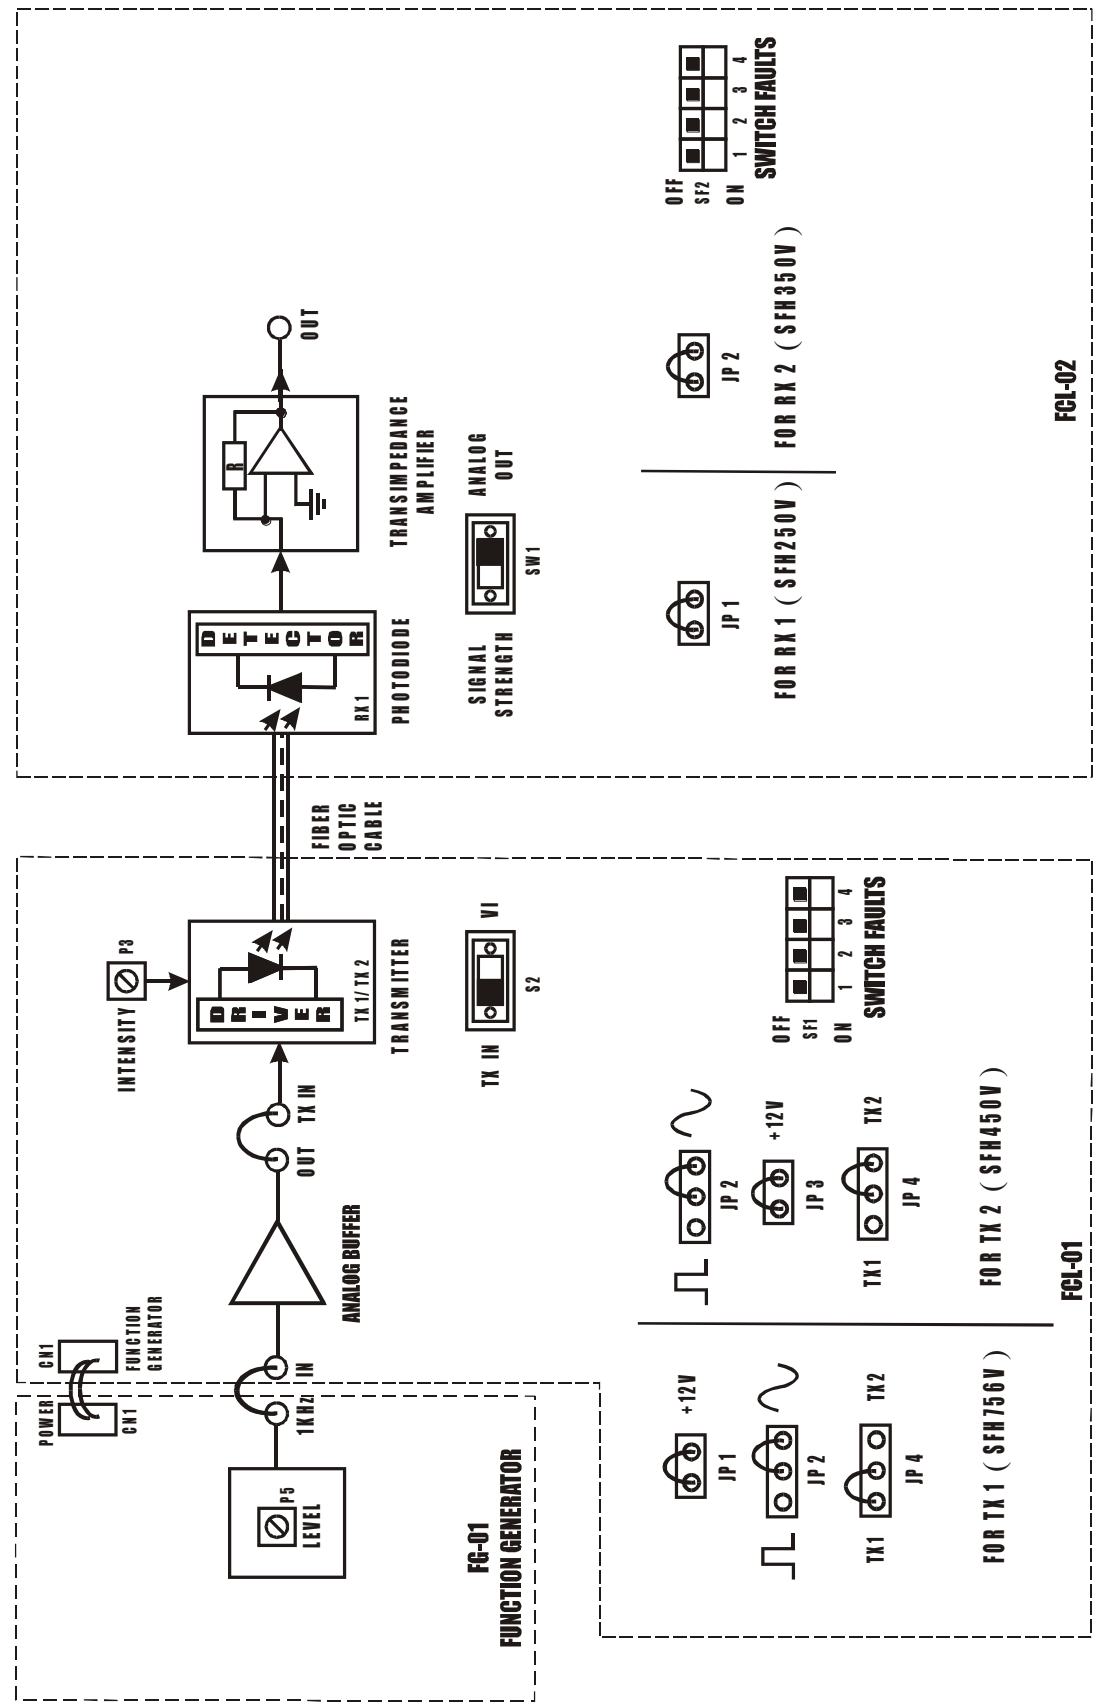

FIG. 6.1 BLOCK DIAGRAM FOR SETTING UP FIBER OPTIC ANALOG LINK
- Make connections as shown in fig.6.1. Connect the power supply cables with proper polarity to FCL-01 & FCL-02 Kits. While connecting this, ensure that the power supply is OFF.
- Keep the jumpers **JP1**, **JP2**, **JP3** & **JP4** on FCL-01 as shown in fig.6.1
- Keep the jumpers **JP1** & **JP2** on FCL-02 as shown in fig.6.1